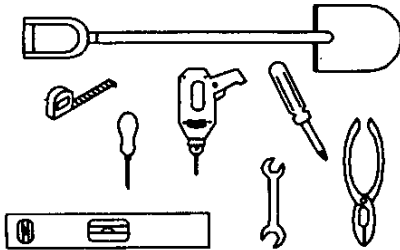

FIG. 1
1. WEATHER WARNING ! DO NOT ERECT YOUR BUILDING ON A WINDY DAY. ANY BUILDING LEFT PARTIALLY CONSTRUCTED MAY BE SERIOUSLY DAMAGED (FIG.1).
3. ALL ASSEMBLY OPERATIONS MUST TAKE PLACE ON A COMPLETELY LEVEL SURFACE (FIG. 1)
(FIG. 1).
3. TOUTES LES OPÉRATIONS DE MONTAGE DOIVENT ÊTRE RÉALISÉES SUR UNE SURFACE PLANE (fig 1).